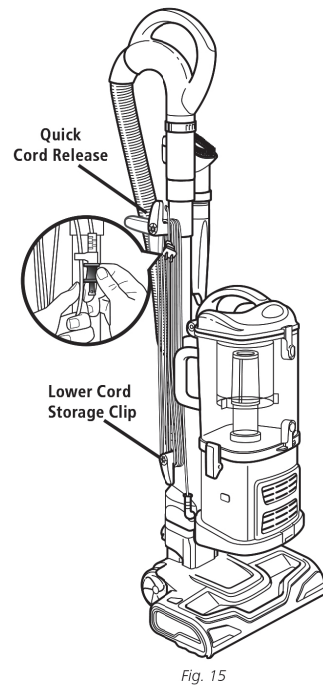

Fig. 15
- Adjust the amount of suction with the suction release on the handle. Open the valve (a) by rotating the collar 90° counterclockwise for low suction when doing light jobs such as drapes or fine surfaces. Close the valve (a) by rotating the collar clockwise 90° for high suction and when using the hand held pet power brush. (Fig. 15)
- Rotate the upper quick cord release to its upright position and coil the power cord loosely around the two clips. Clip the plug onto the cord to secure. (Fig. 15)